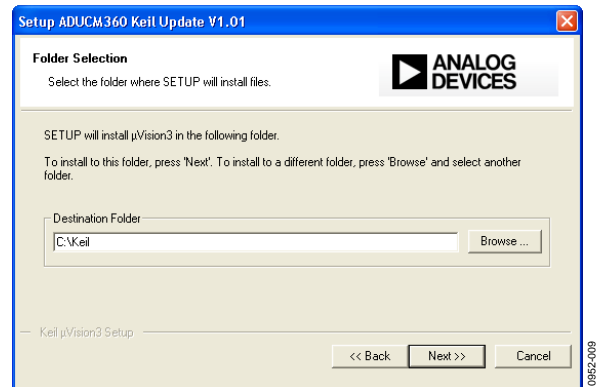

Figure 9. Folder Selection
2. Select **Next** and follow the instructions displayed. Note that versions V4.54 and earlier of Keil μVision need additional files to support the **ADuCM360**. Your μVision installation can be updated to support the **ADuCM360** by running the **ADuCM360KeilUpdateForMDKv454.exe** from the **\ADuCM360V1.0\Keil** folder. In the next window (see Figure 9), set the destination folder as the folder where you have just installed Keil μVision.